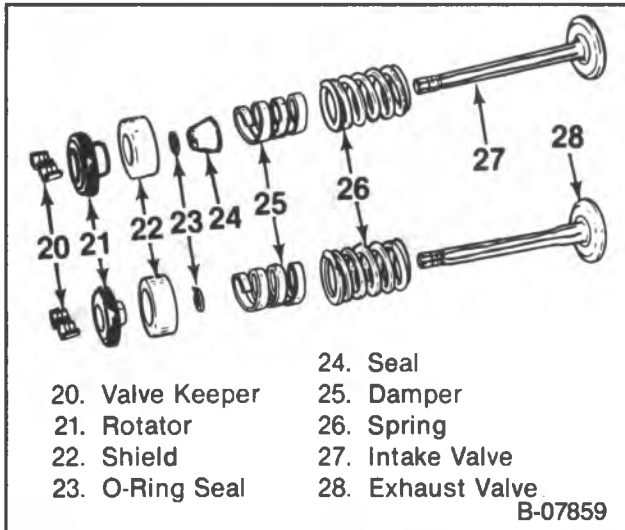

Figure 5 — Valves And Components
**Remove or Disconnect (Figures 5 and 6)**
Install or Connect (Figures 5, 6 and 7)